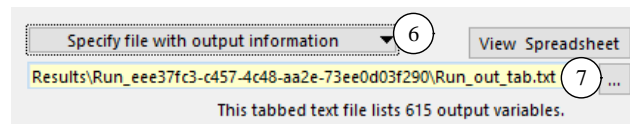

Figure 4. Display when the “specify file” option is selected.
The second option arranges the screen to show a larger field for the pathname for a tabbed text file with an adjacent file browser control (7) (Figure 4).